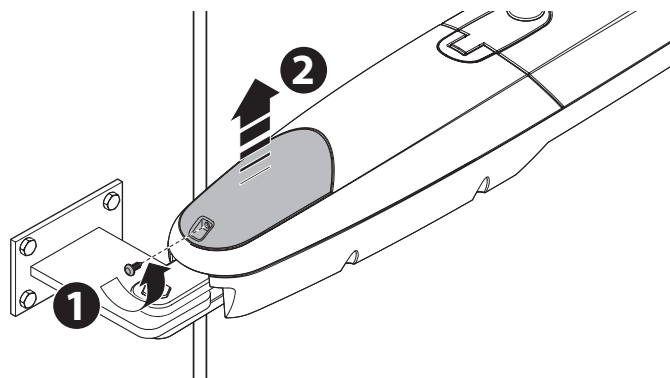

Fig. 13
**01.** Remove the lid of the gear motor as shown in **fig. 13**;